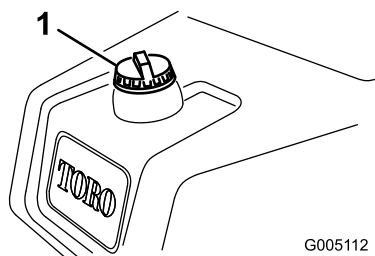

Figure 30
1. Clean around the fuel tank cap (Figure 30).